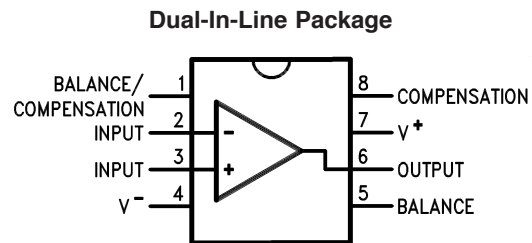

Figure 2 - Pin-out for the LM301 op-amp chip.
Please refer to the pin out diagram shown in Figure 2 to aid you in the construction of your circuit.
Please refer to the pin out diagram shown in Figure 2 to aid you in the construction of your circuit. A step-by-step guide to constructing the circuit is provided below. Ask the TA to check your circuit before turning on the power supply.
3. Refer to the pin-out (Fig. 2). Using different colored wires, connect pins 4 and 7 to the -15V DC and +15V DC, respectively, power supplies on the proto board.
Please refer to the pin out diagram shown in Fig. 2 to aid you in the construction of your circuit.